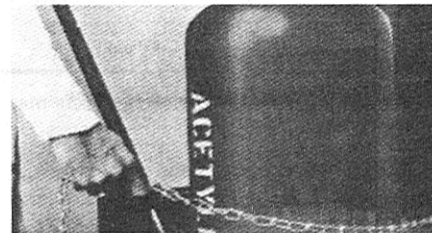

Figure 1
- Place the cylinder where you will use it. Keep the cylinder in a vertical position. Secure it to a cart, wall, work bench, post, etc. (See Figure 1).